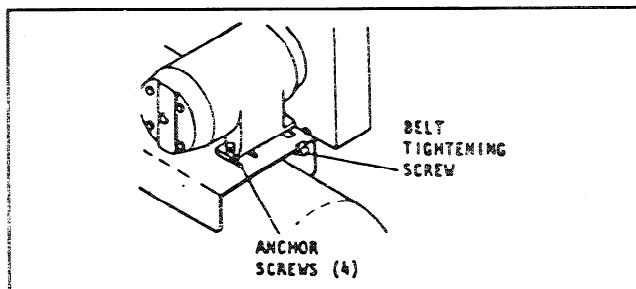

Figure 6-4. Belt Adjustments.
- Measure the belt span ( $t$ ) as shown in Figure 6-4.